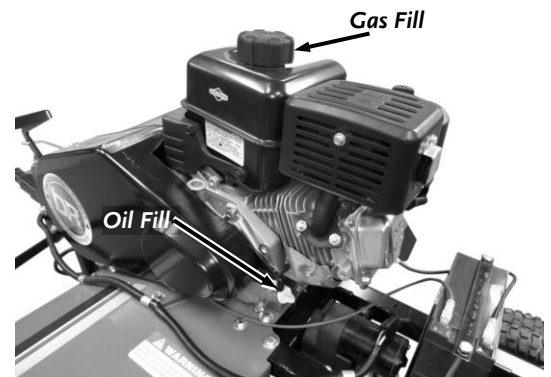

Figure 7
1. Place the machine on a level surface and remove the Oil Fill/Dipstick (**Figure 7**).